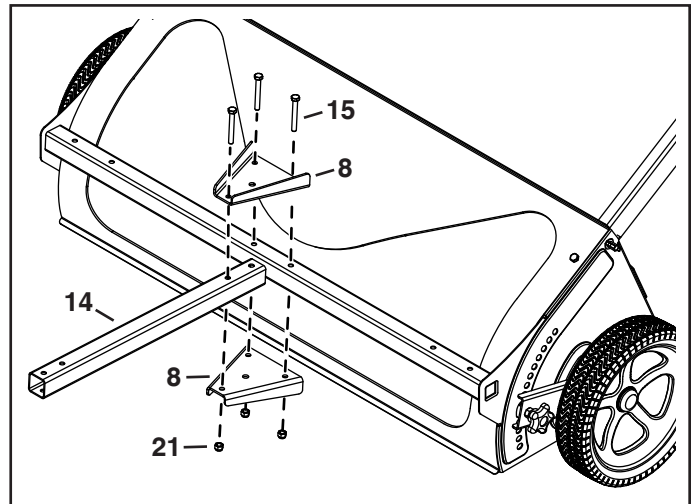

FIGURE 4
STEP 4: (SEE FIGURE 4)
- Attach the drawbar (14) to the sweeper by fastening a drawbar bracket (8) above and below the drawbar using three 5/16" x 2-1/2" hex bolts (15) and 5/16" nylock nuts (21).